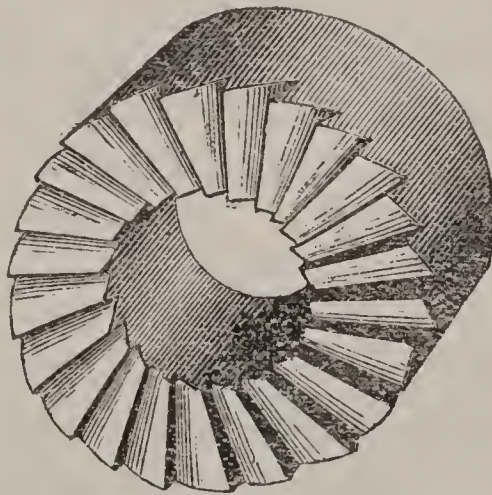

FIGURE 37.
*Breech Pin Formers.*—These tools are made of steel and have holes drilled through them and cutting teeth formed on one end (as shown in Fig. 37). In use it may be held stationary, and the breech-pin turned in the hole until the teeth form it to size and remove enough in length for the screw to be cut on the pin. Eight teeth are enough for the smaller sizes of these tools. If made with more teeth they are consequently finer and shallower and do not operate so well, or cannot be ground to an edge or sharpened with an oil stone if they become dull. The sizes must correspond with the size of the breech taps, or a little less than this size, as the dies used in cutting generally “raise” a thread a little larger than the work. The length of these tools may be about three-fourths of an inch or an inch, as may be best to make them. In use they can be held in a lathe chuck and the pin presented to them while running, or the operation may be reversed, the pin being rotated and the cutter held stationary. If to be used by hand, hold them in a vise or clamp, or make a fixture to hold the pin, using a bit-stock for turning them for cutting.